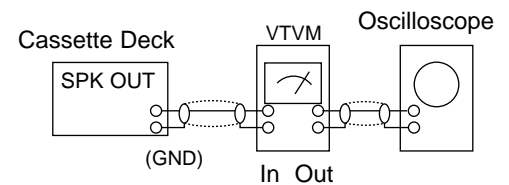

Fig.2
- 3) The cassette deck is connections as shown in fig.2.